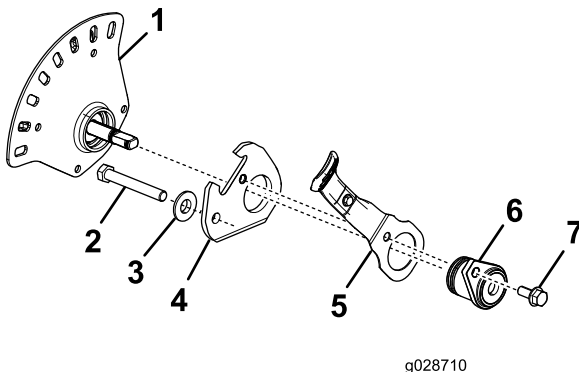

Figure 4
6. Disassemble the remaining parts of the assembly (Figure 4).